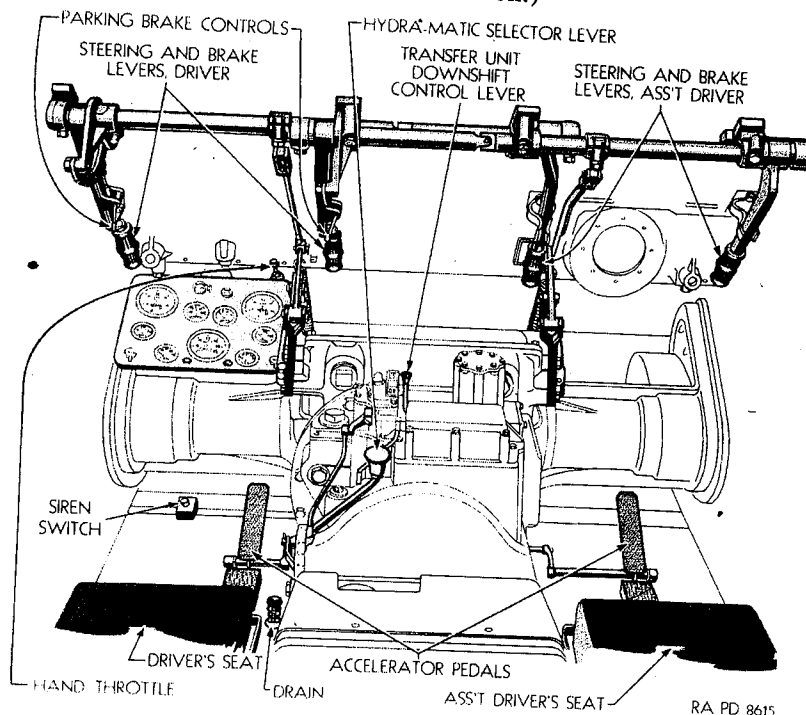
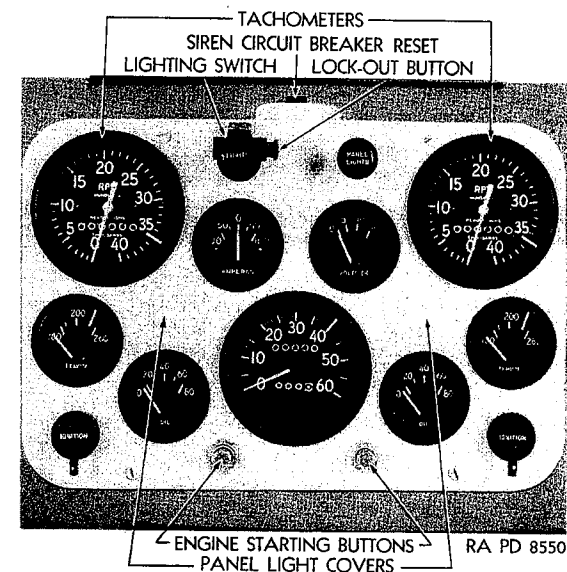
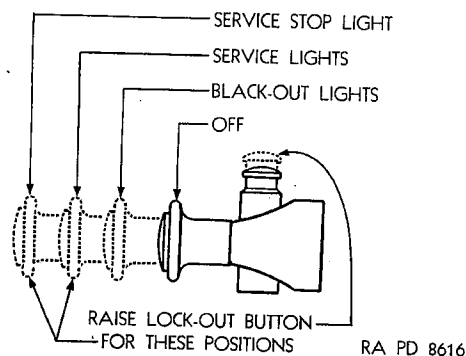

Figure 6—Driving Controls
Figure 7—Instrument Panel
Figure 8—Lighting Switch Positions
c. **Accelerators.** Individual foot accelerators are provided for the driver and assistant driver to complete the dual control system (Fig. 6). The hand throttle is on driver's side, located just above and slightly to the right of the instrument panel, where it can be reached by the assistant driver. The hand throttle is self-locking in any position, and is released by means of a spring button in the center of the control knob.
e. **Brakes.** Pulling back simultaneously on both steering levers slows down or stops the vehicle, depending on the effort applied. The stop light goes on when both levers are pulled back for slowing down or stopping, providing the lighting switch is in a position that closes a stop light circuit (Fig. 8). Parking brake controls on the left-hand, or driver's, steering levers permit the levers to be locked in "On" position for parking (Fig. 6). Move the controls to right for unlocking, to left for locking.
- Turn on the ignition switches for both engines (Fig. 7).
b. With Hydra-Matic control set at "Dr" and Transfer Unit control lever (Fig. 6) in rearward position, the mechanism starts out in first and automatically shifts through second, third, fourth, fifth and sixth as speed increases and engine load is reduced.
All exterior lights are controlled from a single push-pull button on the instrument panel, Fig. 7. There are three positions in addition to "Off", Fig. 8. A push-button lock on the control itself prevents the service lights from being turned on accidentally. The light switch operates as follows: